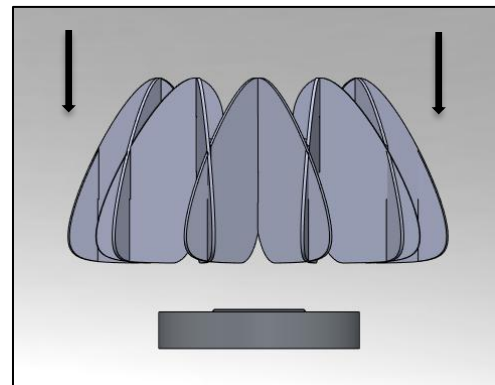

FIG. 13 – ACOUSTIC PANELS INSTALLATION
3. Once all panels are placed onto the support ring, the next step is to align the cutout on the inner ring with the hanging system holes of the fixture. After alignment, carefully place the panels' bottom lip onto the cirque lighting fixture, ensuring a secure and proper fit (as shown below in FIG. 13).